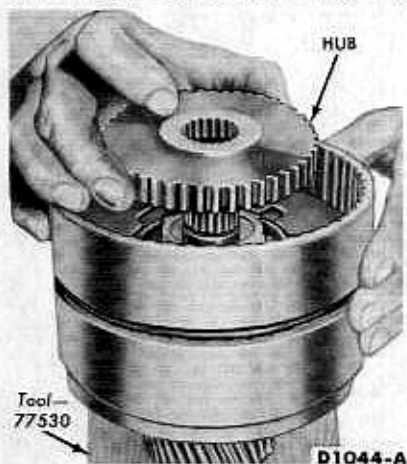

FIG. 26—Clutch Hub Installation
bore down (Fig. 26). Install the thrust washer on the clutch hub.
12. Install the clutch hub in the clutch cylinder with the deep counterbore down (Fig. 26). Install the thrust washer on the clutch hub.